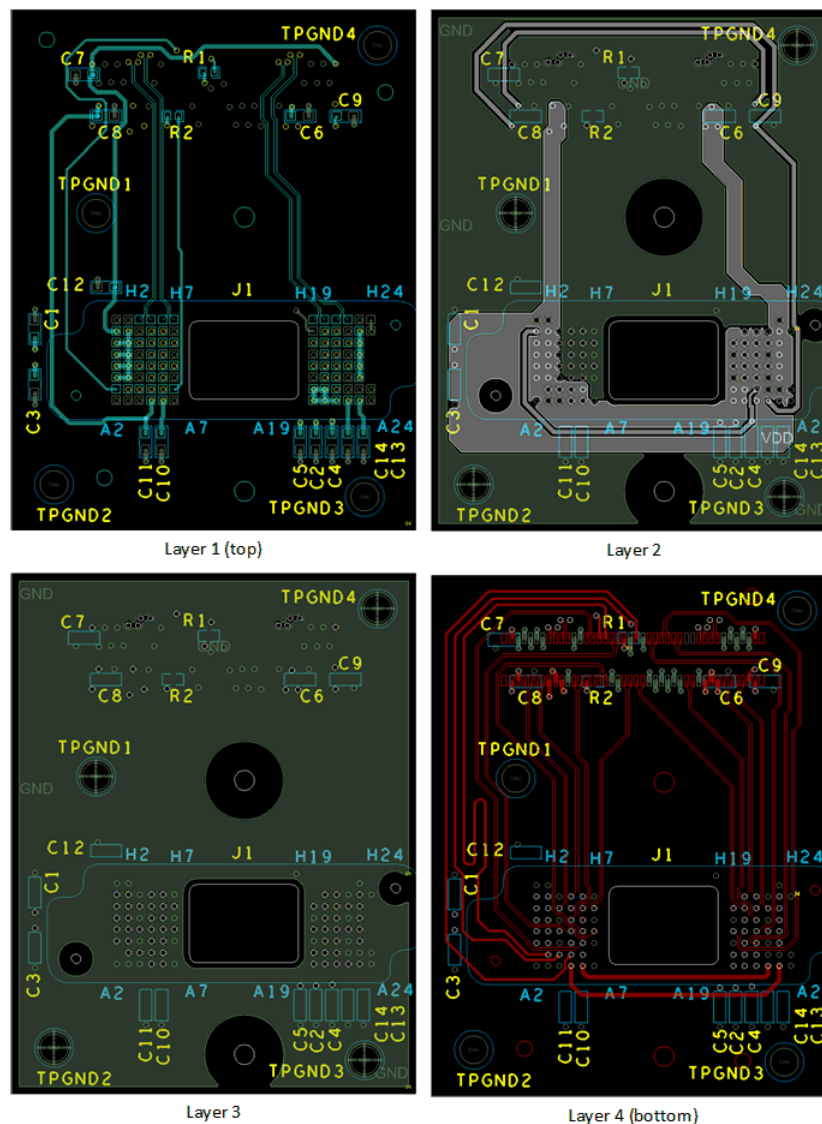

図 9. Power Supply Connections
- Minimize vias, layer changes, and turns for the HS bus signals. Refer to Figure 9.
- Minimum of two 220-nF (35 V) capacitors - one close to V_{BIAS} pin. Capacitors C10 and C14 in Figure 9.
- Minimum of two 220-nF (35 V) capacitors - one close to each V_{RST} pin. Capacitors C11 and C13 in Figure 9.
- Minimum of two 220-nF (35 V) capacitors - one close to each V_{OFS} pin. Capacitors C4 and C12 in Figure 9.
- Minimum of four 220-nF (10 V) capacitors - two close to each side of the DMD. Capacitors C1, C3, C2, and C5 in Figure 9.